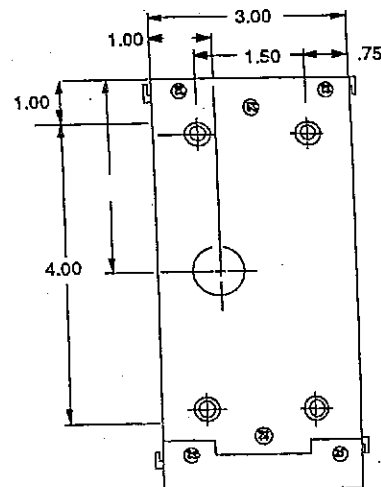

Figure 1. Wall/shelf enclosure dimensions
- b. Using the dimensions shown in Figure 1, page 5, drill four (4) 13/64" mounting holes for each housing to provide clearance for #10 bolts.
- a. If bottom conduit entrance is required remove the two (2) screws attaching the brackets to the housing. Rotate the brackets to face away from the housings and reinsert and tighten the screws.
- b. Using the dimensions shown in Figure 1, page 5, drill your (4) 13/64" mounting holes for each housing to provide clearance for #10 bolts.